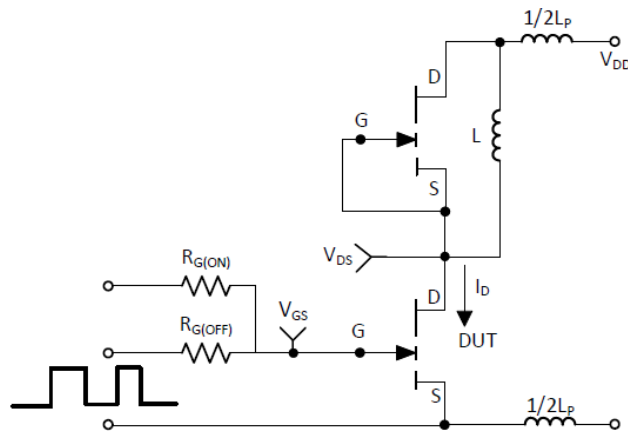

Figure 17: Switching Loss Test Circuit
(7) L_P is the switching circuit parasitic inductance.
(8) See Figure 17 for switching loss test circuit.